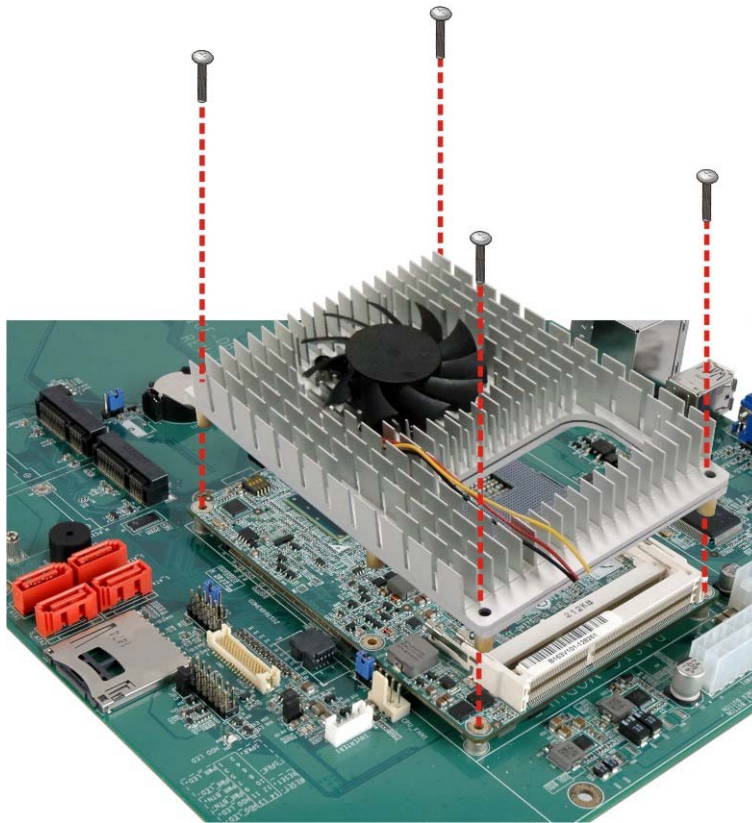

Figure 4-7: Secure the Heatspreader Plate with the Cooling Kit to the Baseboard
- Step 3:** Place the heatspreader plate with the cooling kit on the ICE-QM770, aligning the retention screw holes (**Figure 4-7**).
- Step 4:** Secure the heatspreader plate with the cooling kit onto the baseboard with the supplied retention screws (**Figure 4-7**).